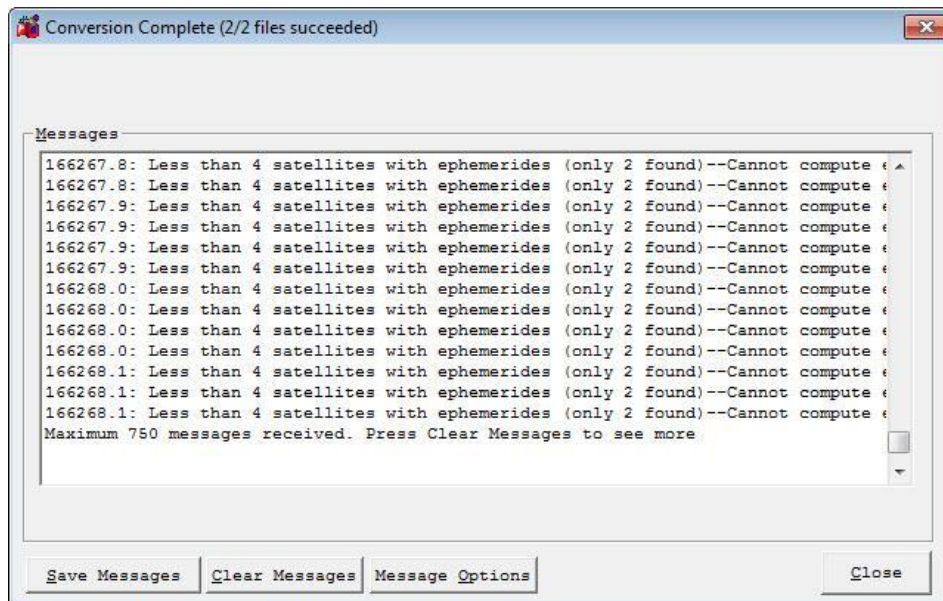

Figure 7-5 Conversion Complete (2/2 files succeeded)
- Wait until the Conversion Complete dialog displays showing 2/2 files succeeded (Figure 7-5). Then click Close.